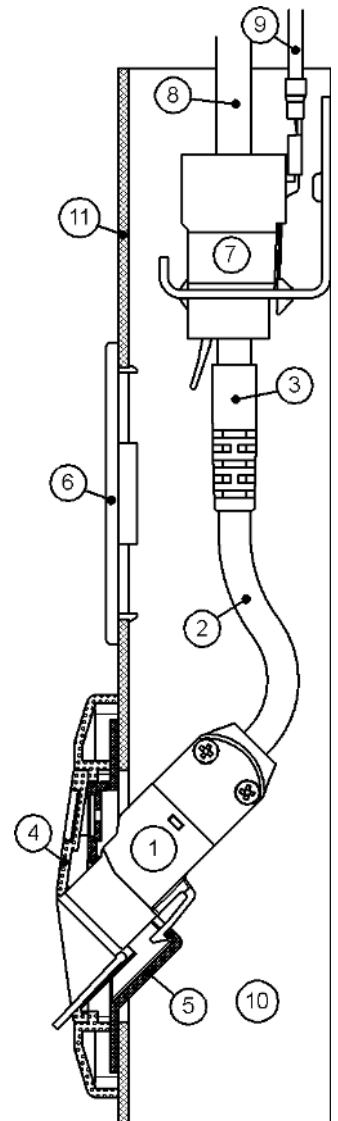
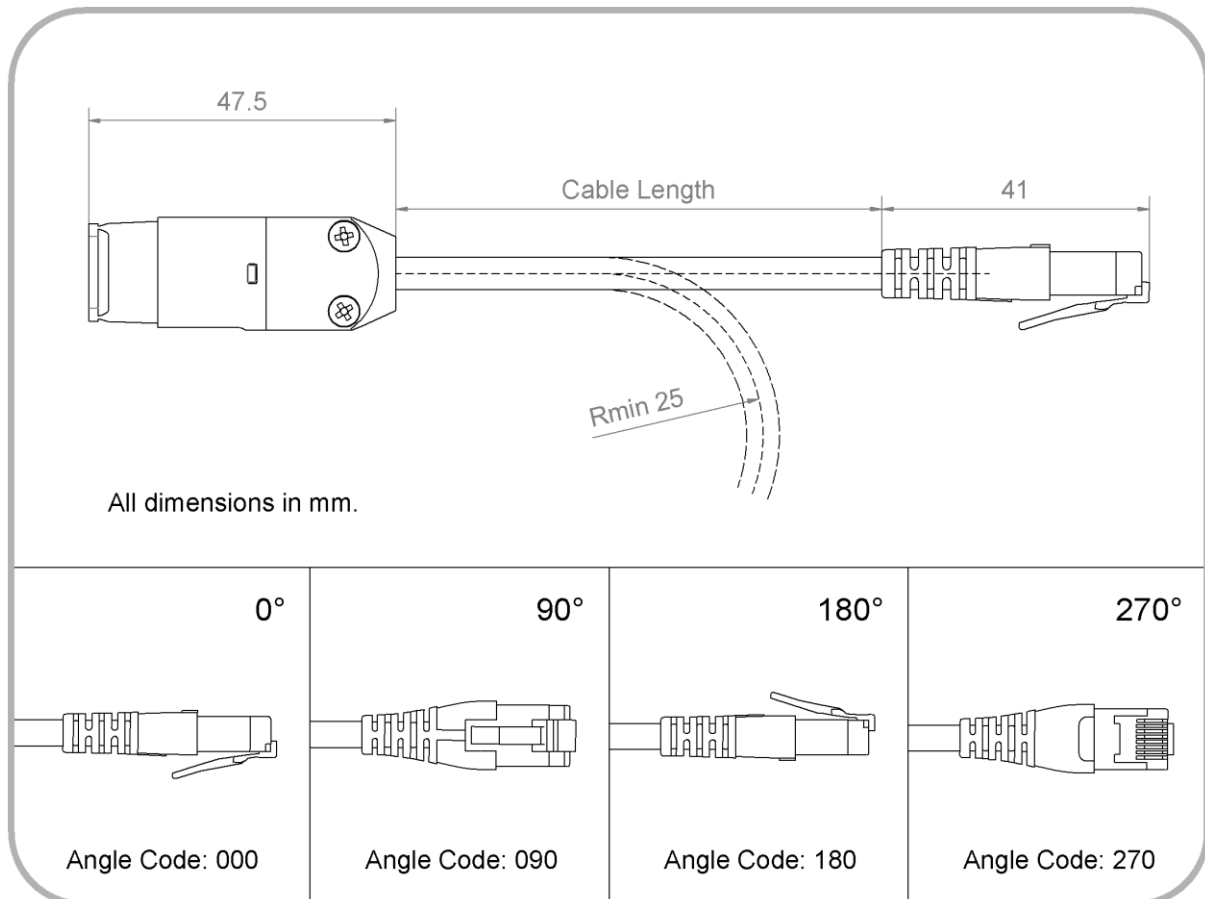
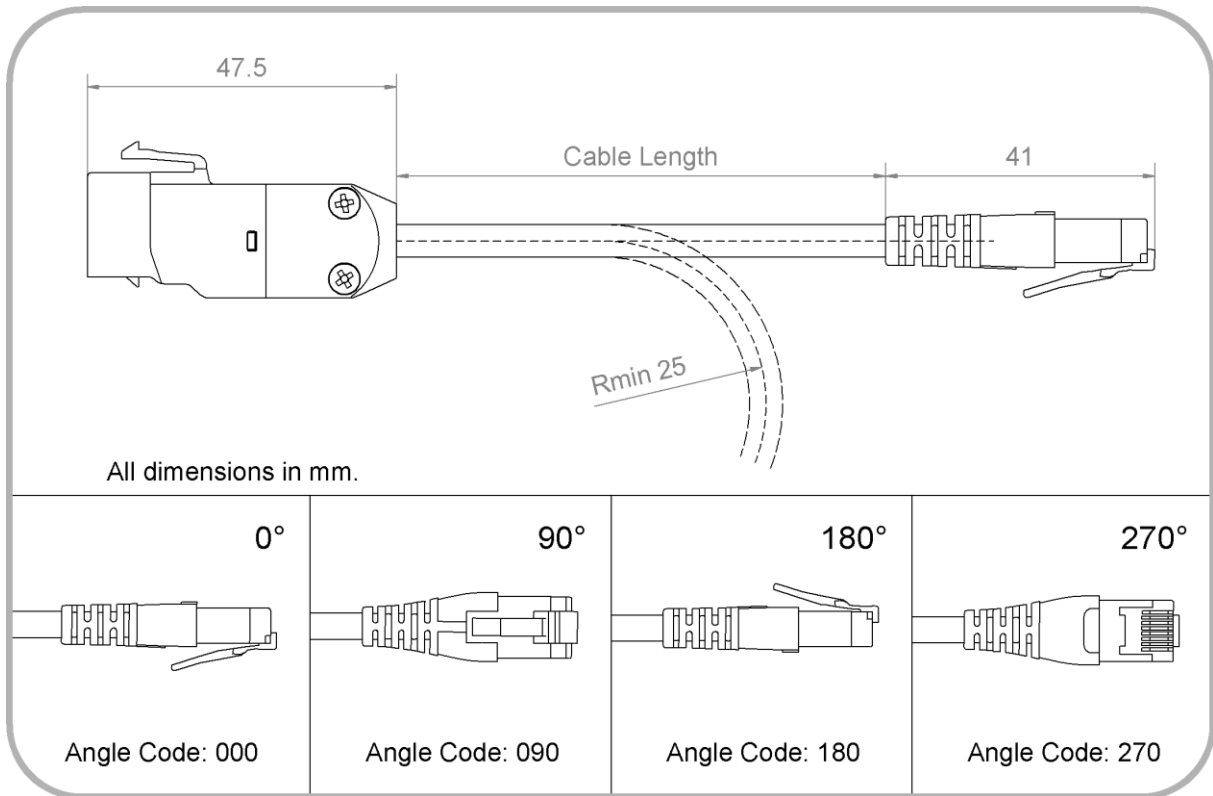

Figure 6
Figure 8. Technical drawing for EN-65S, showing definition of cable length, as well as angle codes.
Figure 9. Technical drawing for EN-65K, showing definition of cable length, as well as angle codes.
Figure 6 shows a typical assembly within a cable duct (10), with cover (11). The Network Isolator EN-65K (1) is shown installed in a Keystone-compatible wall outlet, which usually consists of a support frame (5) and a plastic front panel (4). The RJ45 plug (3) of the Network Isolator is to be inserted into a RJ45 jack module termination (7) at the end of the permanently installed data cable (8). When retrofitting the Network Isolator EN-65K (1) into network channels, the existing RJ45 jack module from the wall outlet can be shifted back within the cable duct (10), and used as the connection to the Network Isolator.
The transmission properties of permanent network installations fitted with EN-65 Network Isolators can be checked with cable certification devices which are suitable for testing electrically isolated cable sections. To be able to conduct such an inspection, the test equipment must be configured in an AC wire-map mode. The entire cable route, including the Network Isolator, can be tested to EIA/TIA-568 Cat.5e or ISO 11801 Class D. Testing of the cable shielding and the conductor resistance is not possible in this mode. If however, these tests are required, or if the quality of the cable route itself needs to be tested (without the Network Isolator), then testing can be performed by bypassing the Network Isolator, and connecting directly to the RJ45 socket ⑦, set back within the cable duct, as indicated in Figure 6.
The length of the flexible cable stub ② (see Figure 6 in section 7.1) of the EN-65 Network Isolator is available in selected lengths from 30 mm to 10 m (inclusive). Refer to Figure 8 and Figure 9, as well as the table in section 10.4. It is recommended that this length be kept to a minimum. When compared to a fixed installed cable, this flexible cable stub may be more susceptible to near end crosstalk (NEXT) and alien crosstalk (AXT). The flexible cable stub itself generates a small, but length-dependent amount of insertion loss (IL).
For flexible cable stub lengths between 30 mm and 500 mm (inclusive), the plug angle can be chosen, easing mechanical constraints in certain assembly configurations, and removing impermissible torsion strains from the cable assembly. Refer to Figure 8 and Figure 9. The manufacturing tolerance for the plug angle is $\pm 20^\circ$.
When placing orders for EN-65, please specify the exact Order Code (OC). The order number is a hyphenated concatenation of the Article Number (A10068 for EN-65K, or A10069 for EN-65S), the Length Code for the desired cable length (see section 10.4 above), and the Angle Code for the desired plug angle (see Figure 8 and Figure 9). For flexible cable stub lengths greater than 500 mm, the EN-65 will always be manufactured with a plug angle of 0°, and the Angle Code can be omitted for such orders.